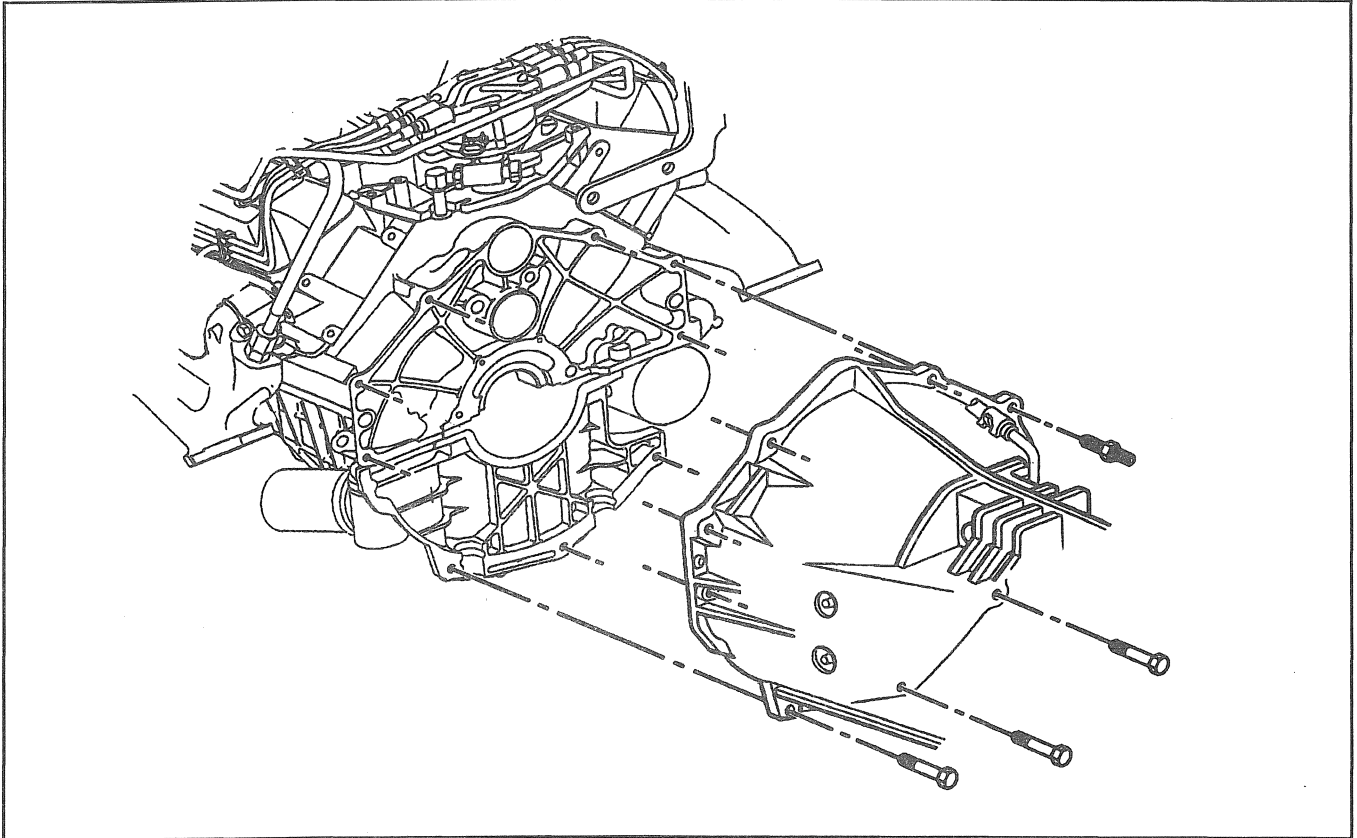

Figure 12—Transmission to Engine (New Venture Gear 3500)
15. Bolts and studs securing the transmission to the engine (Figure 12).
3. Transmission to the engine (Figure 12).